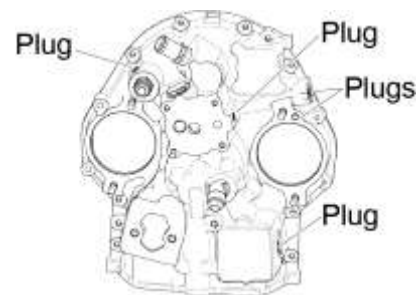

Figure 8
- D. Install plugs in the accessory housing (Figure 8) with a new O-ring as required.